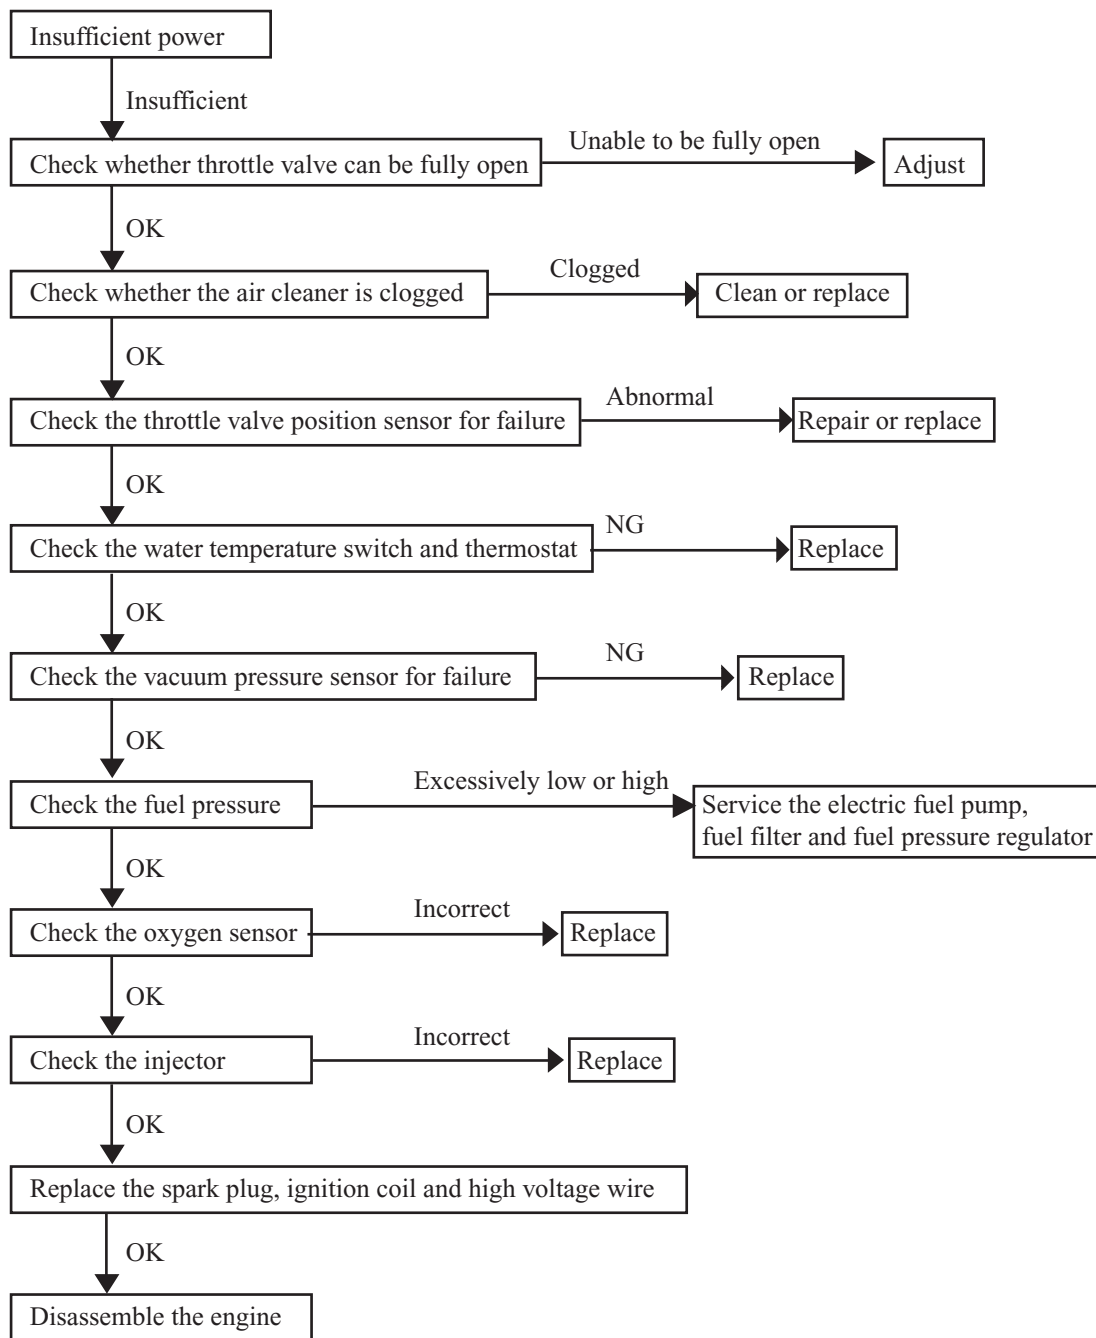

Figure 150
(3) Diagnosis procedure for insufficient engine power (Figure 150)